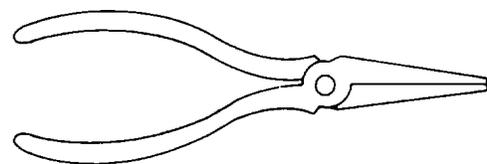

Figure 4-43. Long-Nose Pliers
(3) *Long-nose pliers.* Long nose pliers, shown in figure 4-43, are used to reach places inaccessible to the fingers, such as inserting cotter pins in close places. They are also used to bend small pieces of metal.